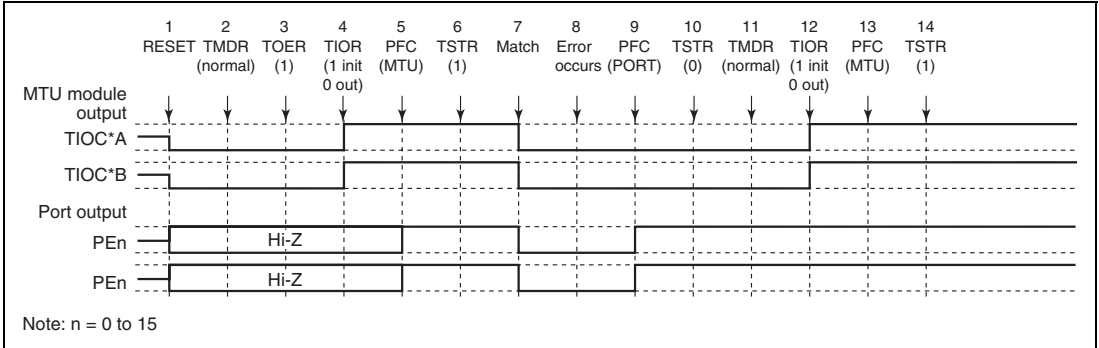

Figure 8.84 Error Occurrence in Normal Mode, Recovery in Normal Mode
(1) Operation when Error Occurs during Normal Mode Operation, and Operation is Restarted in Normal Mode: Figure 8.84 shows an explanatory diagram of the case where an error occurs in normal mode and operation is restarted in normal mode after re-setting.
1 to 10 are the same as in figure 8.84.